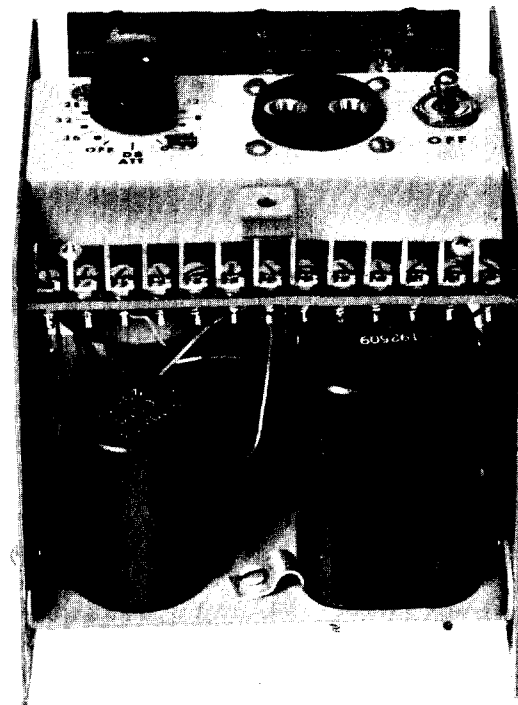

Fig. 1 - List 1 Amplifier
1.05 The KS-16831, List 1 amplifier is designed for use on 5, 8 and 15 kc local program circuits. It consists of a printed wiring amplifier card (KS-16860, List 1 amplifier) which contains the preliminary stages, assembled with the output stage transistor, gain control, input and output transformers, monitoring jacks, terminals, and other components on a small chassis with a removable cover. The unit is arranged for mounting in the KS-16831, List 5 carrying case or on mounting bars on a relay rack. In addition to the main output, a separate independent output for connecting a vu meter and jacks for high impedance headphone monitoring is also provided. The amplifier is designed to operate from a 48-volt battery or from a 120-volt 60-cycle source by use of the KS-16831, List 4 power supply. The external appearance of the amplifier with cover removed is shown in Fig. 1. The amplifier mounted on a bracket for use in a 467-type apparatus case is shown in Fig. 2.